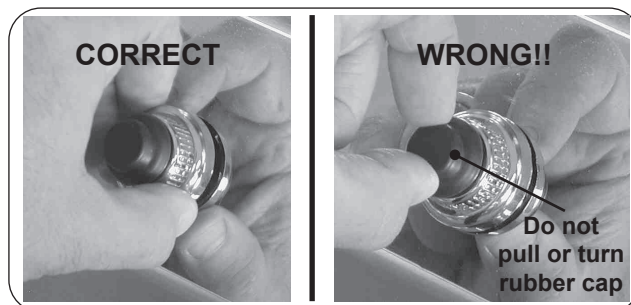

Fig. 24-3 Remove igniter cover
- Important:** Do not attempt to pull or turn the rubber cap (see Fig. 24-3).